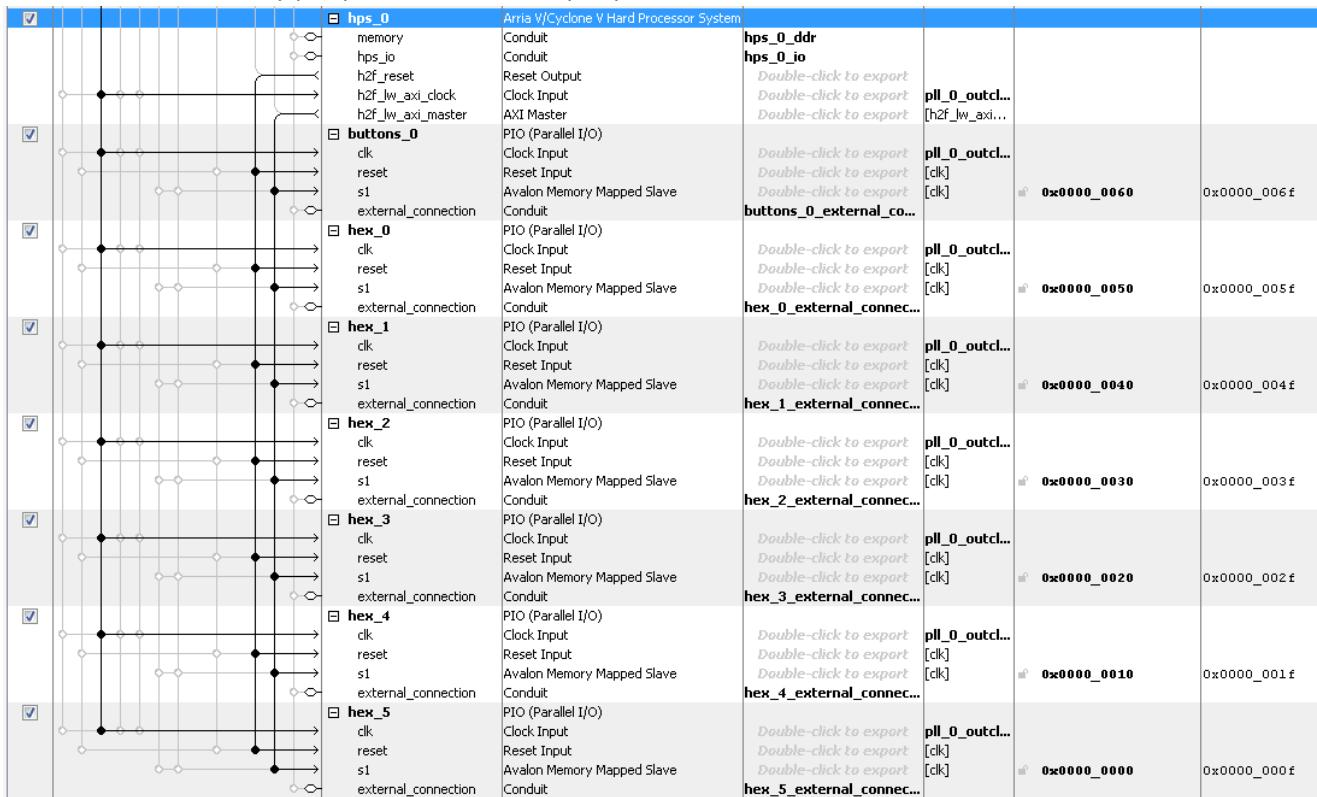

Figure 9-13. Adding Buttons and 7-segment Displays to the Lightweight HPS-to-FPGA Bridge
29. Connect the system as shown in Figure 9-13 below. Notice that we use “hps\_0.h2f\_reset” as the reset signal for the components connected to the HPS. This is a design choice so we can separately reset FPGA-only peripherals, and FPGA peripherals connected to the HPS.